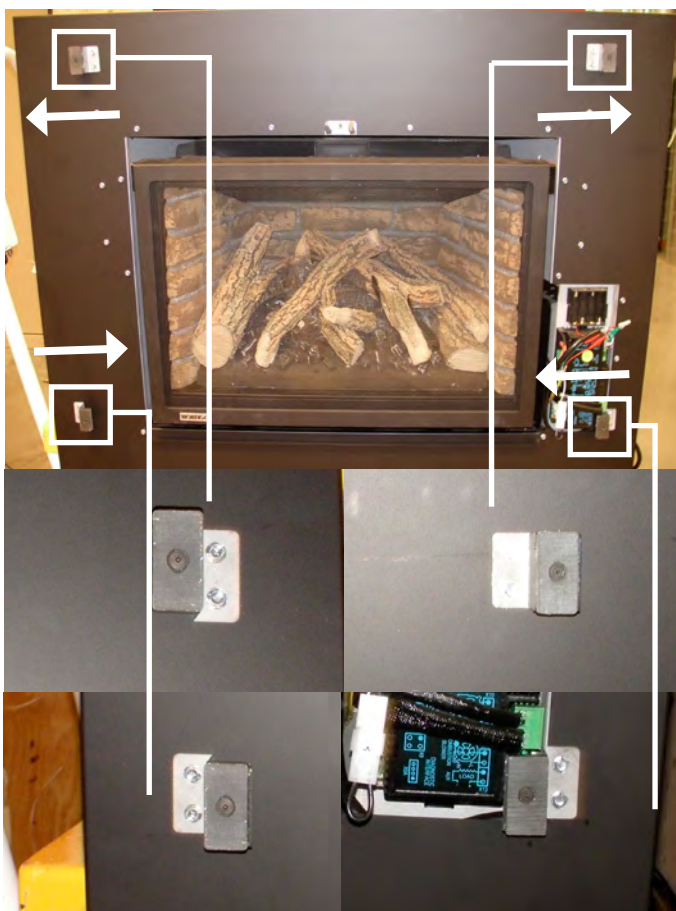

Figure 30 Sec.7
5). Attach the Rear Faceplate to the Firebox using the screws provided (18 locations). Do not insert screws in magnet locations highlighted in Figure 30 below.